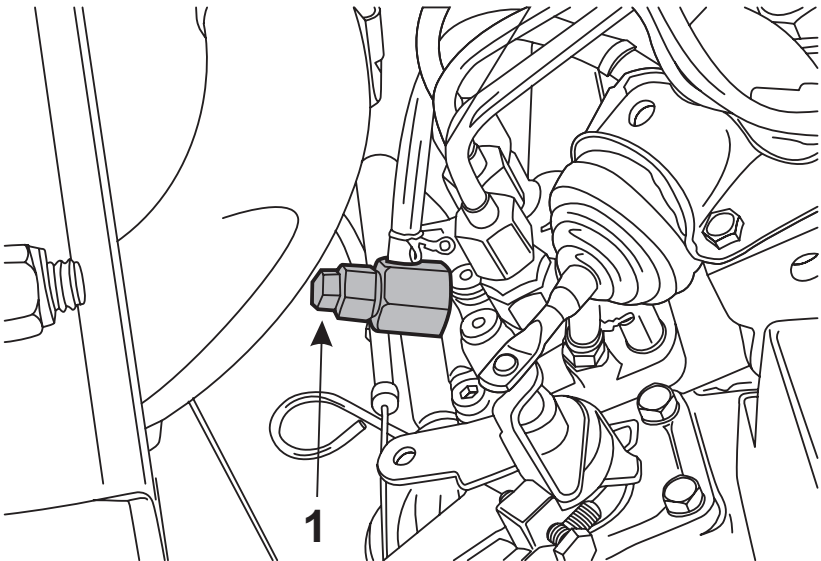

Figure 4-23 Fuel System Air Bleed Valve
1. Loosen the air bleed bolt (Item 1, **Figure 4-23**). **DO NOT** remove this bolt.